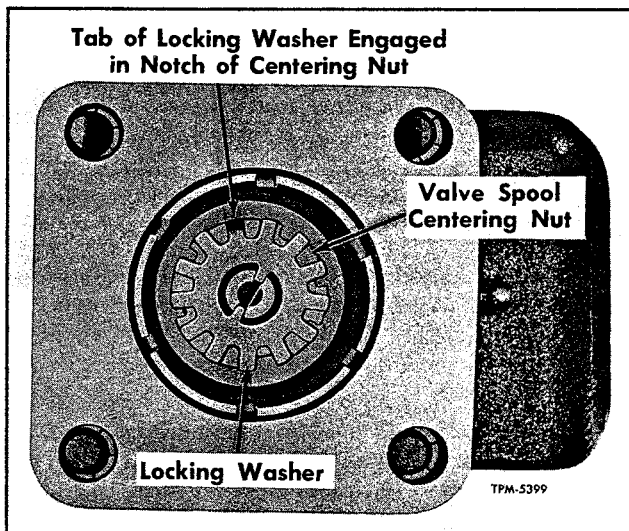

Figure 13—Valve Spool Locking Washer Installed
6. Lock valve spool in place by installing centering nut locking washer. Insert inside diameter tabs of the locking washer in the slot of the spool. One of the outside diameter tabs should then line up with one of the centering nut slots. Bend tab of washer into slot of centering nut (fig. 13). Use punch and hammer.